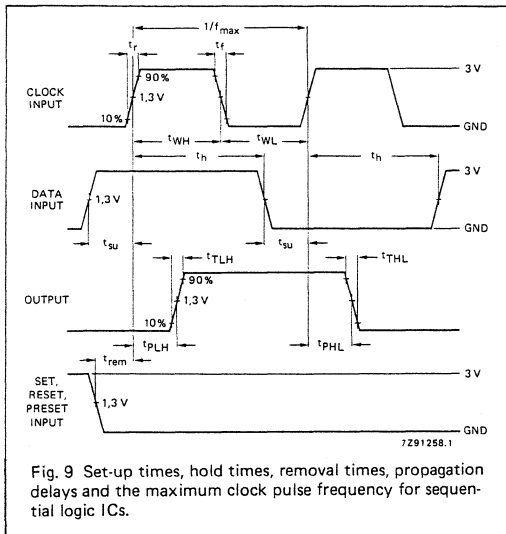

Fig. 9 Set-up times, hold times, removal times, propagation delays and the maximum clock pulse frequency for sequential logic ICs.
Notes to Fig. 9
1. In Fig. 9 the active transition of the clock is going from LOW-to-HIGH and the active level of the forcing signals (SET, RESET and PRESET) is HIGH. The actual direction of the transition of the clock input and the actual active levels of the forcing signals are specified in the individual device data sheet.